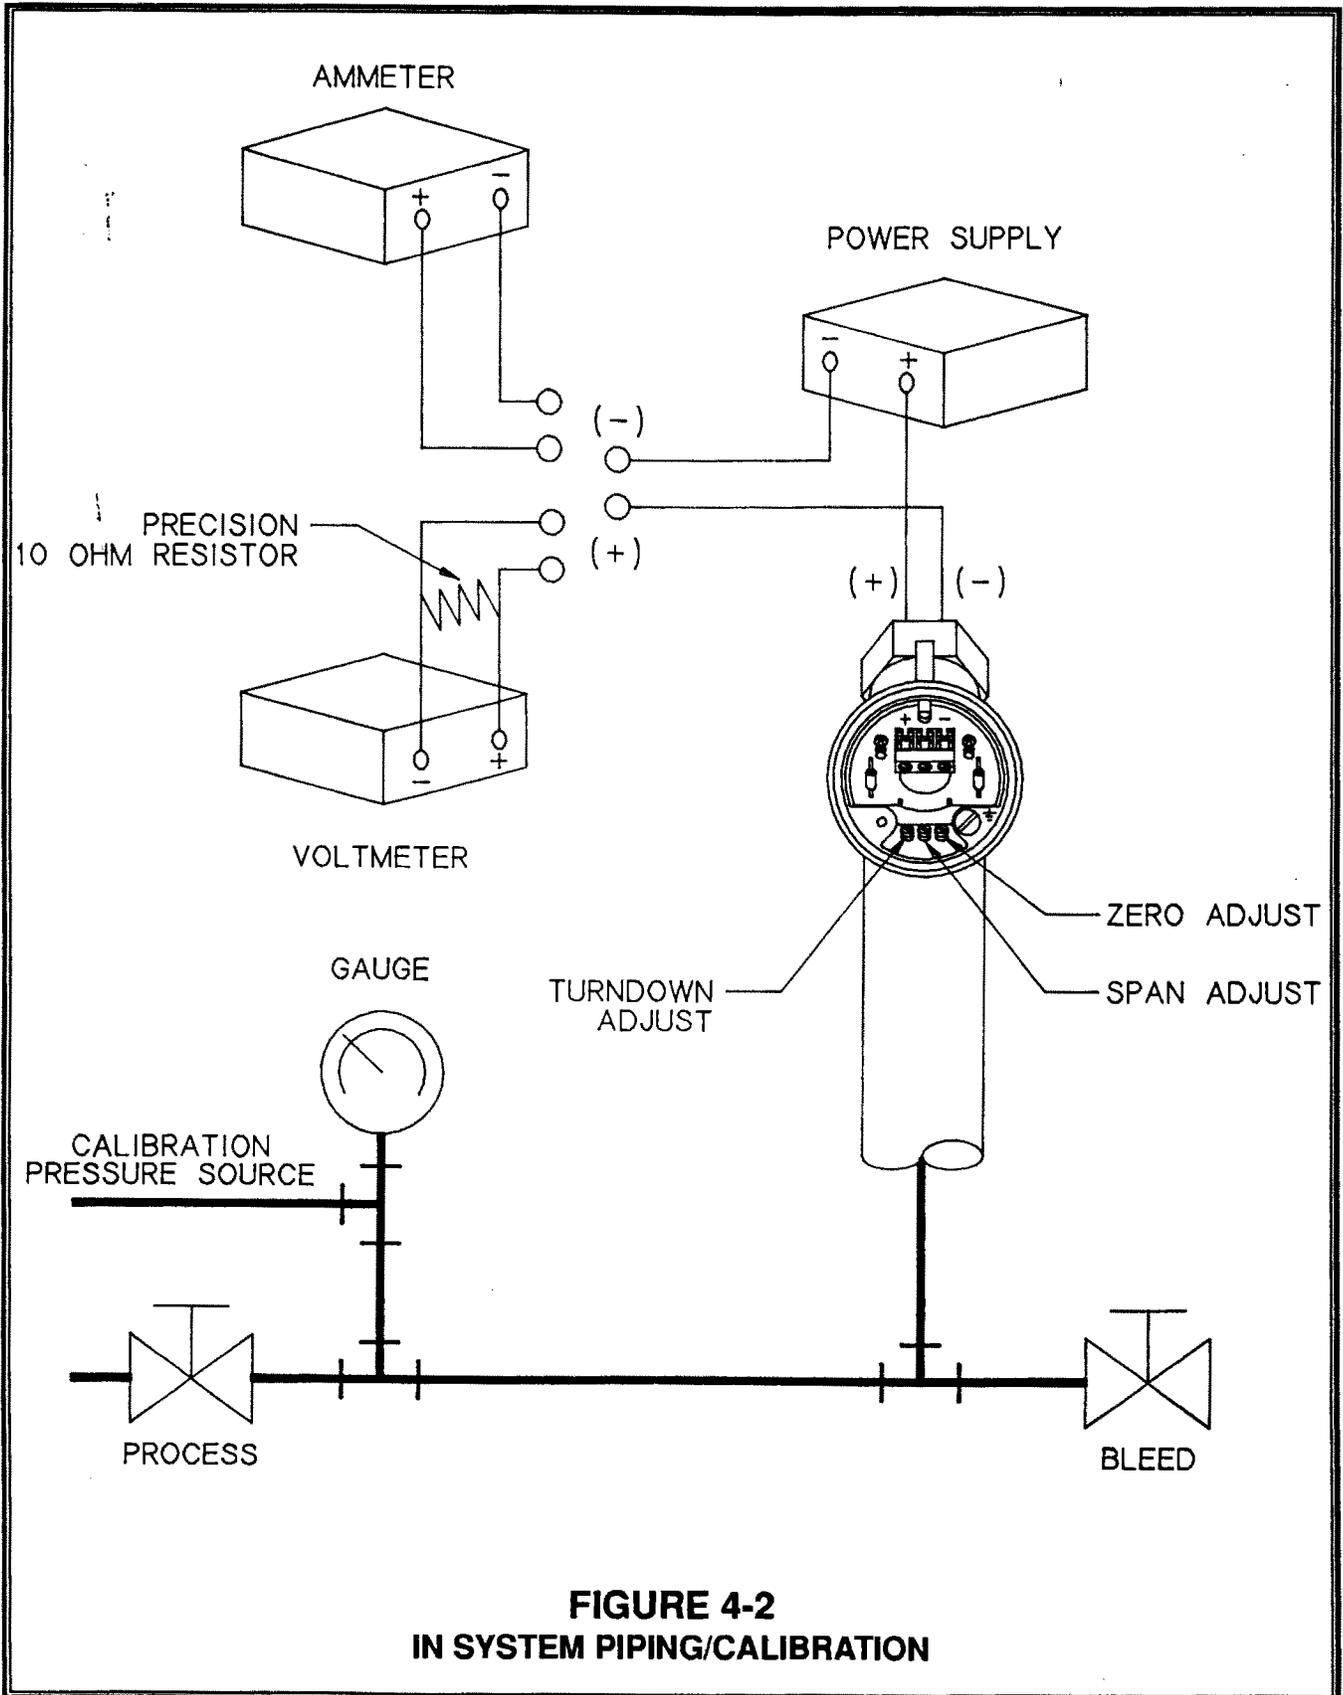

FIGURE 4-2
Figure 4-2 shows an in-system piping (includes a tee for calibration). The bleeder valve should block the process.
The Model PX880/PX881 Transmitter can be calibrated using an ammeter or voltmeter (Figure 4-2).
Use a voltmeter with a 10 ohm precision resistor connected as shown in Figure 4-2.
With the calibration set up as show in either Figure 4-2 or 4-3.
* Using 10 ohm resistor as shown in Figure 4-2.